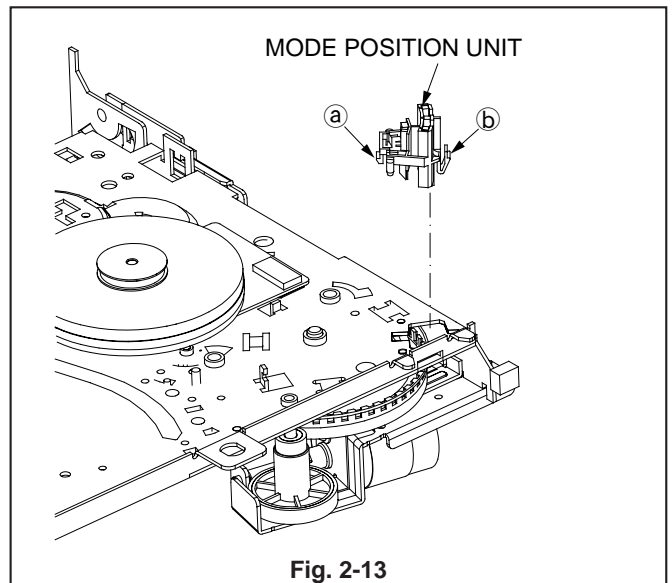

Fig. 2-13
1. Release the two catches (a) and (b) of the MODE POSITION UNIT shown in Fig. 2-13 to remove the MODE POSITION UNIT.
1. Install the catch (b) of the MODE POSITION UNIT shown in Fig. 2-13.
2. Install the catch (a) of the MODE POSITION UNIT shown in Fig. 2-13.